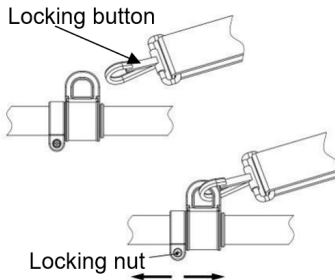

Fig. 6A
1. Press the locking button to clip shoulder strap. (Fig.6A)
2. Unscrew the locking nut to adjust the place of the shoulder strap for your comfortable operation. (Fig.6A)